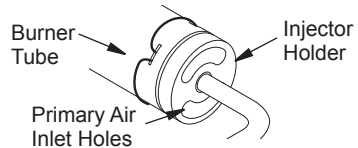

Figure 39 - Injector Holder On Outlet Burner Tube
2. Inspect burner, pilot and primary air inlet holes on injector holder for dust and dirt (see Figure 39).